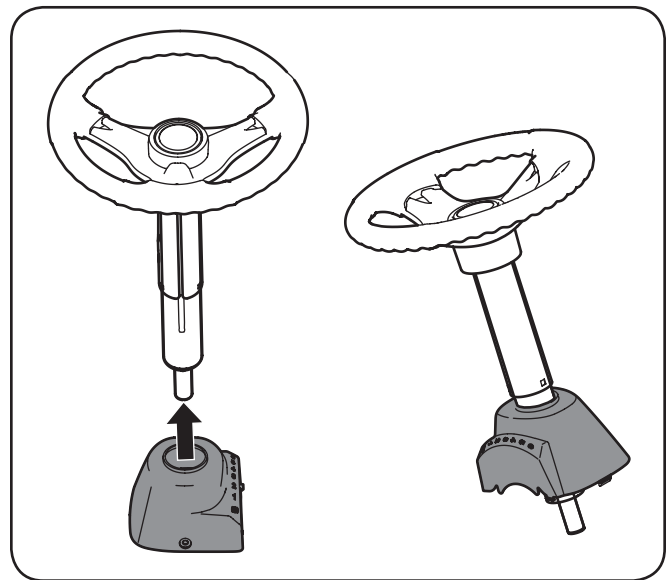

Figure 3-1
1. Slide the pedestal cap onto the steering shaft so that when the steering shaft is installed on the tractor, the pedestal cap will be upright as shown in 1. Slide the pedestal cap onto the steering shaft so that when the steering shaft is installed on the tractor, the pedestal cap will be upright as shown in Figure 3-1..